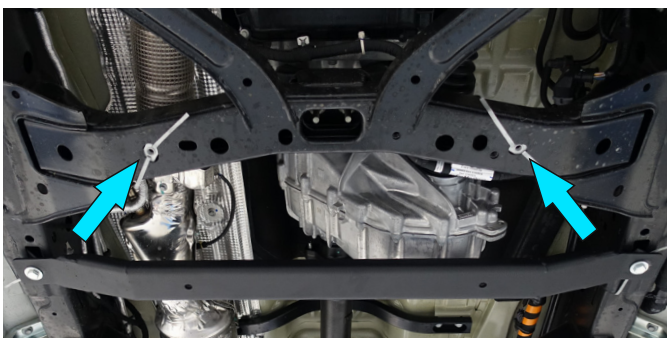
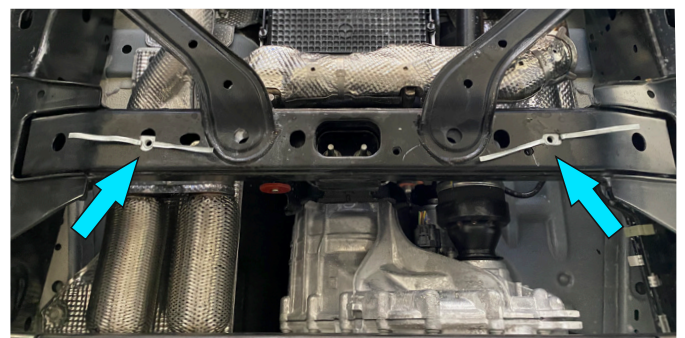

Fig. 4
Fig. 5
3. Install the insert nut M10 (item D) or loosen rear bolts of RIVAL gearbox skid plate, as shown in fig.4 for Ranger, Everest, Amarok and fig.5 for Ranger Raptor.